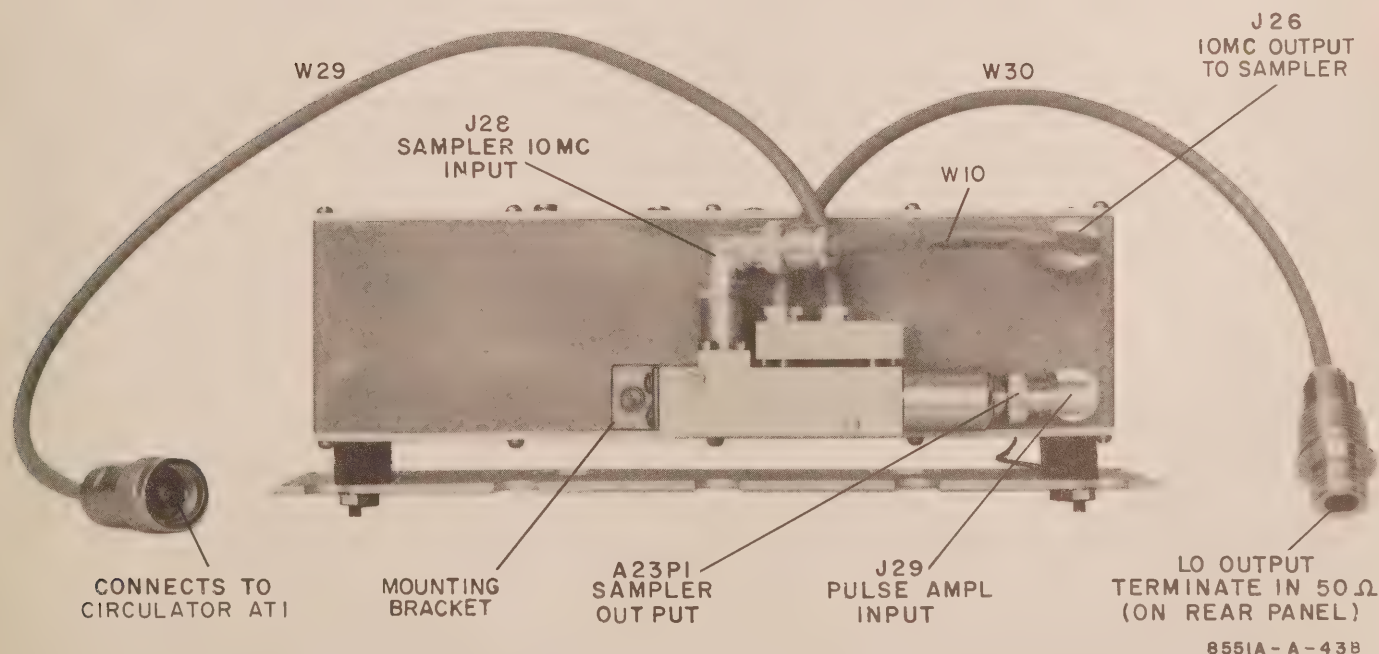

Figure 5-17. Lock Assembly A15 and Sampler Assembly A23, Model 8551B
w. Using BNC tee, connect counter to J26, 10-Mc output (Figure 5-17). Insert a 1k resistor at the tee in series with the cable to the counter to reduce loading effects of the cable.
y. Remove mounting screws securing Sampler Assembly A23 to Lock Assembly A15 and disconnect the two assemblies at A23P1/J29 (Figure 5-17). Connect dc voltmeter to A23P1 output of sampler assembly (first ground voltmeter probe to remove any possibility of static charge on the lead) and adjust A15A1T1 10MC AMPL OUTPUT TUNING for a maximum voltmeter reading.